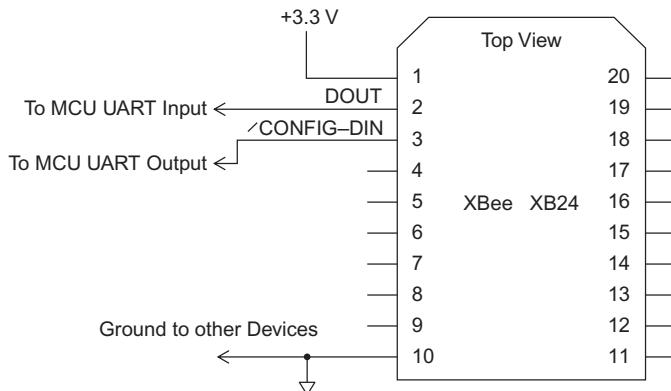

FIGURE 17.2 Connections at an XBee XMTR module for 2-way MCU serial communications.
Step 3. The schematic diagram in Figure 17.2 shows the connections needed between an XBee module and an MCU for serial communications. Later you will make specific connections for the MCU you chose to work with. For now, if you have other connections to the XMTR module, please disconnect them.